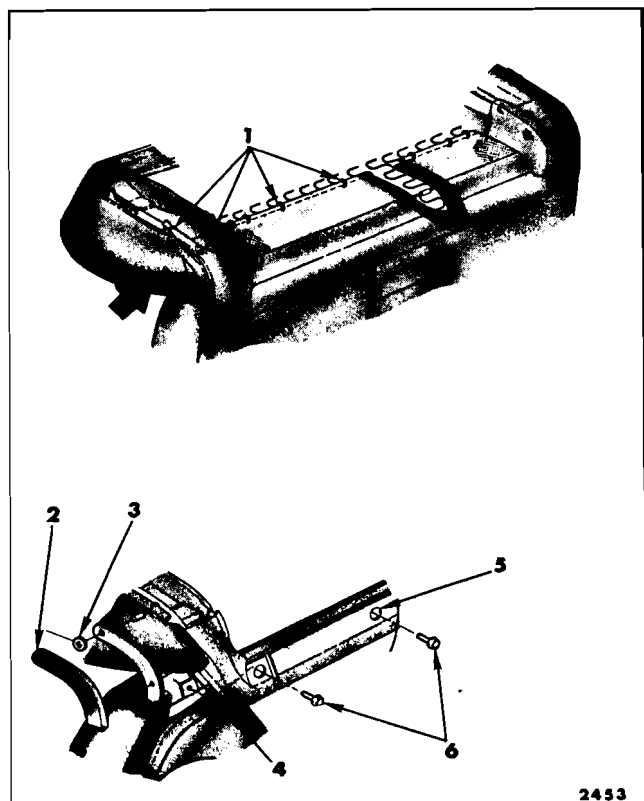

Fig. 15-29—Seat Back Removal (Right or Left) - Full Width Notch Down Seat Back
2. Remove hog rings securing lower edge of seat cushion trim bottom facing to seat cushion springs and frame (Fig. 15-29).
3. Remove outer hinge arm cover (Fig. 15-29); then, using a flat bladed tool carefully remove retainer securing seat back outer arm to hinge pin (Fig. 15-29).
4. Turn back seat back trim to expose seat back attaching bolt access holes; then, through access holes remove seat back frame to seat cushion frame attaching bolts (Fig. 15-29).
then, tilt seat back forward and upward to disengage seat back inner arm from hinge pin (Fig. 15-29) and remove seat back from body.